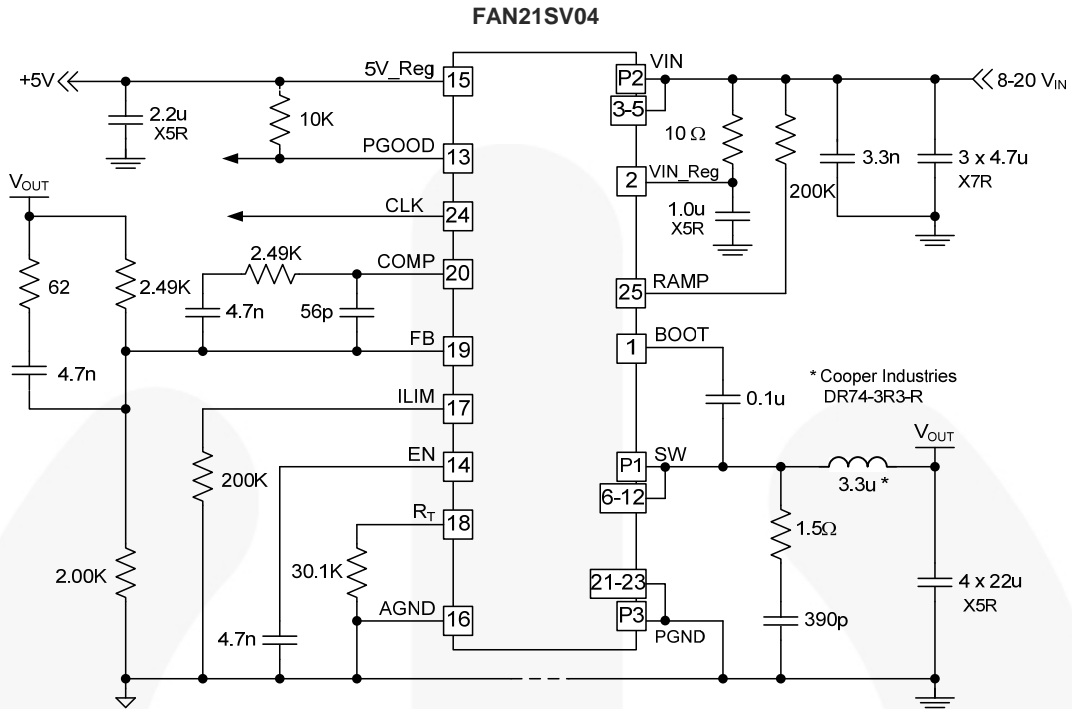
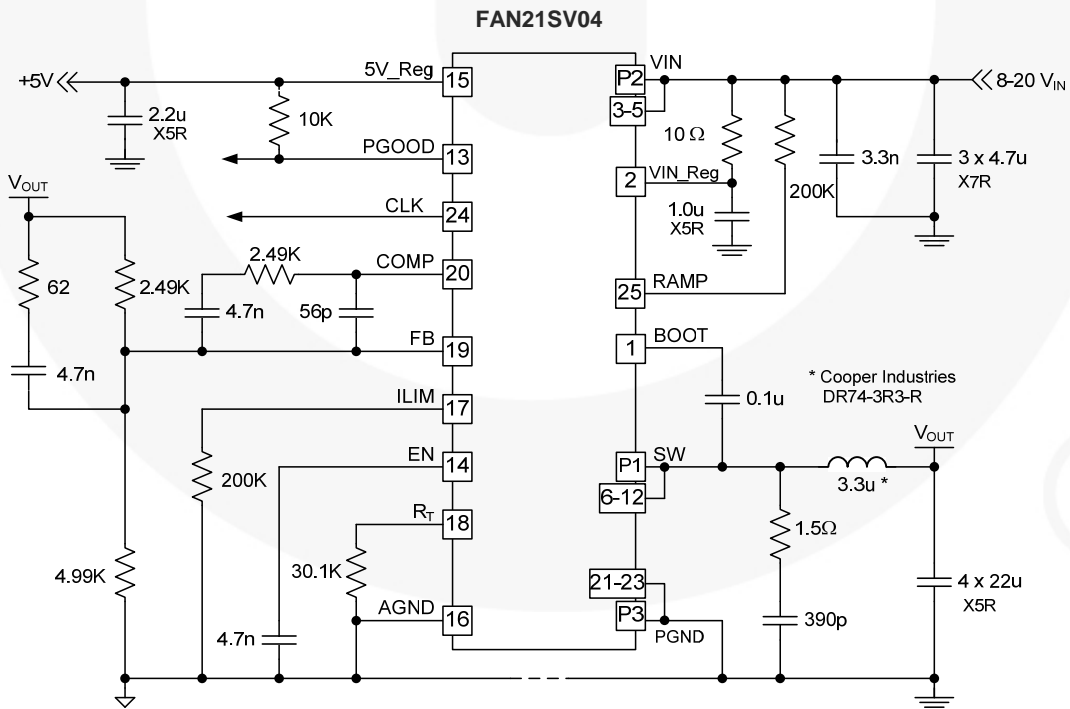

Figure 10. Single-Supply Application Circuit: 1.8 VOUT, 500 KHz, Master, 8 V – 20 V Input
Figure 11. Single-Supply Application Circuit: 1.2 VOUT, 500 KHz, Master 8 V – 20 V Input
Typical operating characteristics using the Figure 10 circuit;  $V_{IN}=12\text{ V}$ ,  $V_{CC}=5\text{ V}$ ,  $T_A=25^\circ\text{C}$ , unless otherwise specified.
- Circuit values for this configuration change in Figure 10.
5. Circuit values for this configuration change in Figure 10.
Typical operating characteristics using the Figure 10 circuit.  $V_{IN}=12$  V unless otherwise specified.
For applications with  $V_{IN} < 6.5\text{ V}$ , FAN21SV04 can be used if  $V_{IN\_Reg}$  is provided with a separate low-power source  $>6.5\text{ V}$ .  $V_{IN\_Reg}$  supply should come up after  $V_{IN}$  during dual-supply operation. The  $V_{IN\_Reg}$  pin should always be decoupled with at least a  $10\text{ }\Omega$  resistor and a  $1\text{ }\mu\text{F}$  ceramic capacitor (see Figure 10, Figure 11).